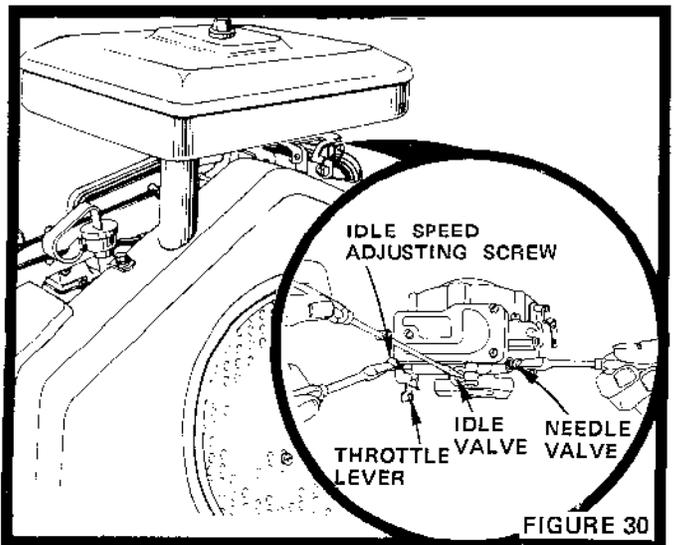

FIGURE 30
- Turn Needle Valve clockwise, closing finger tight ONLY, and then turn counterclockwise 1 - 1/2 turns (Fig. 30).